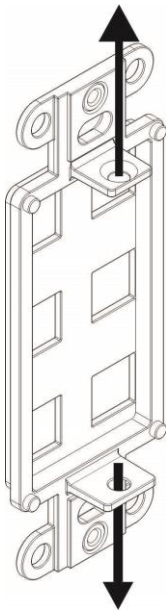

Figure 6: Removing the Button Cover Plate Mounting Screws
3. To access the buttons, remove the two button cover plate mounting screws (see Figure 6) and remove the button cover plate. Put the plate and screws aside.